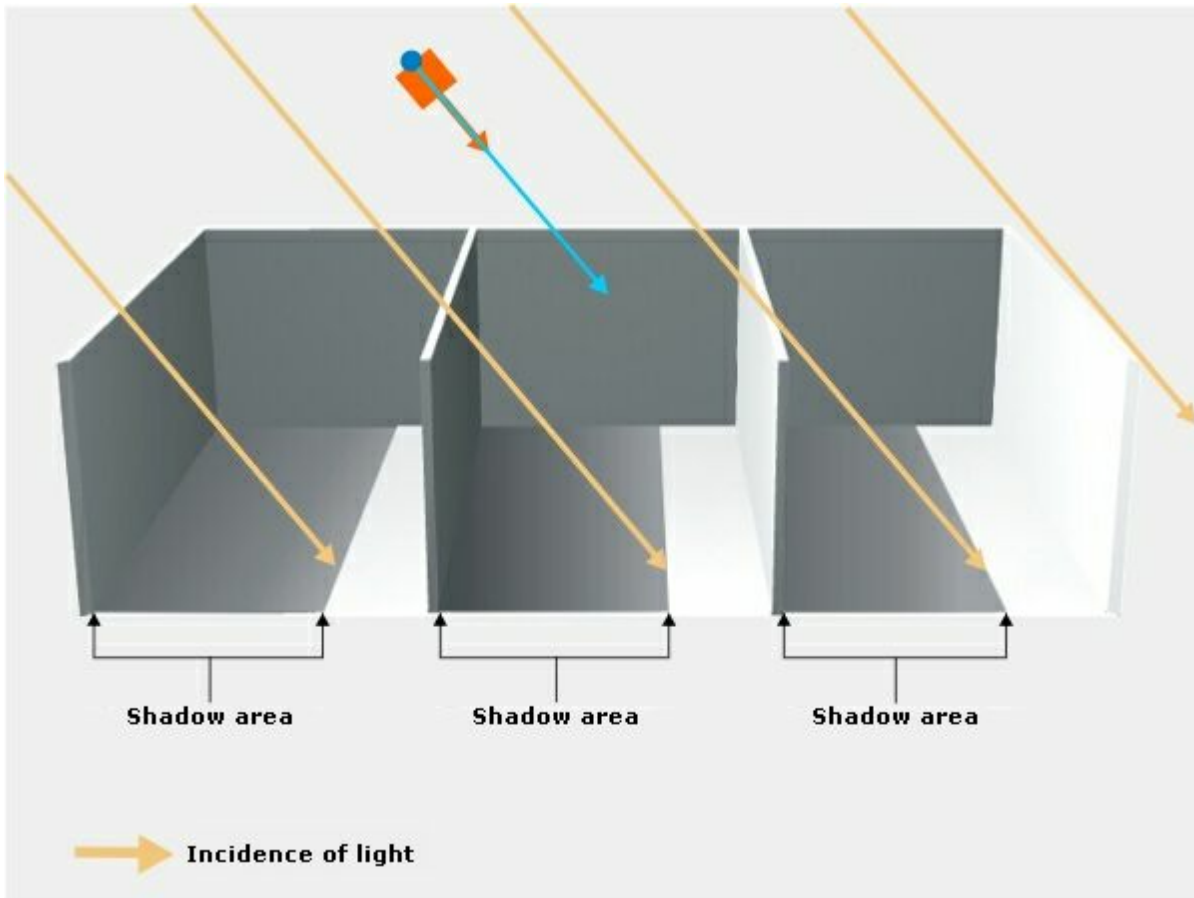

Figure 6
- The first interactor is the **source interactor**. It is located at the source of the light and is highlighted in light green on figure 6.
In contrast to spotlight and point light, the **light source does not actually emit the light**; therefore it is not dark behind it. The light source **simply indicates the direction of the light beams**. This specific characteristic is visualized in Figure 6.